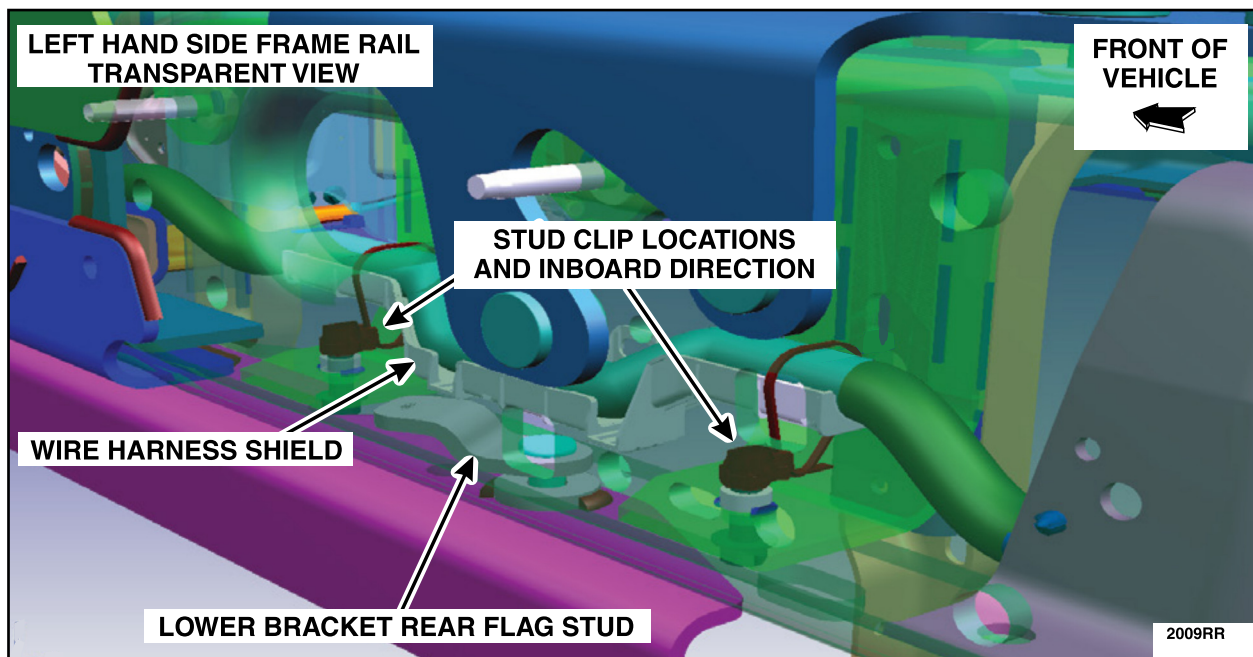

FIGURE 37
- Position the supplied stud clips onto the studs with the zip ties side facing inboard as shown in Figure 37.